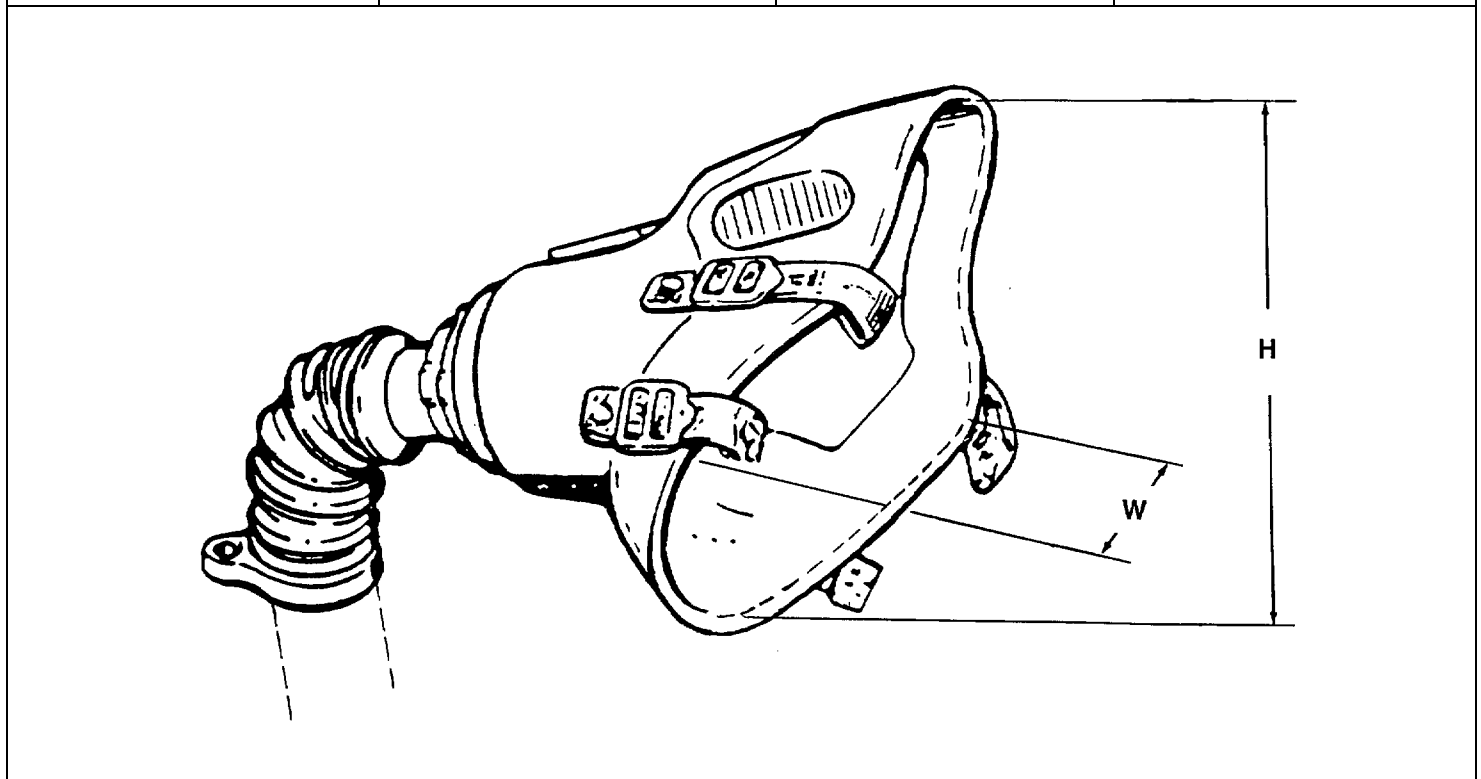

Figure 3-2. Leading Particulars--Facemask MBU-12/P
a. Leading Particulars. Leading particulars for the MBU-12/P oxygen mask are contained in Figure 3-2. Further information on the mask is available in TM 55-1660-247-12.
- b. **FACEMASK SELECTION.** To select the appropriate facemask part number from figure 3-2, proceed as follows:
- (4) Select mask size required (i.e. small, regular, etc.).
- (5) Using mask size obtained in step (4), select part number required from tabular data in figure 3-2.
When leakage occurs between face and mask, verify mask part number with figure 3-2. When proper mask is being used and leakage occurs, proceed to step (e).